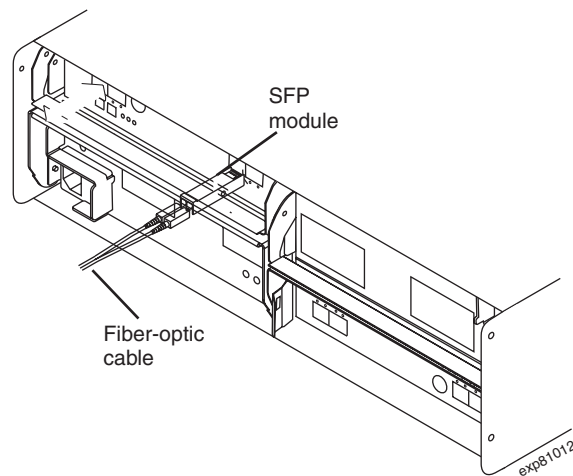

Figure 61. Installing an SFP module and connecting an LC-LC cable to the storage expansion enclosures
2. Connect an LC-LC fiber-optic cable into the SFP module, as shown in Figure 61 on page 87.
Install an SFP module in the SFP port on the back of the storage expansion enclosures; then, connect the other end of the LC-LC cable into the SFP module, as shown in Figure 61.
Table 28. Description of Figure 61